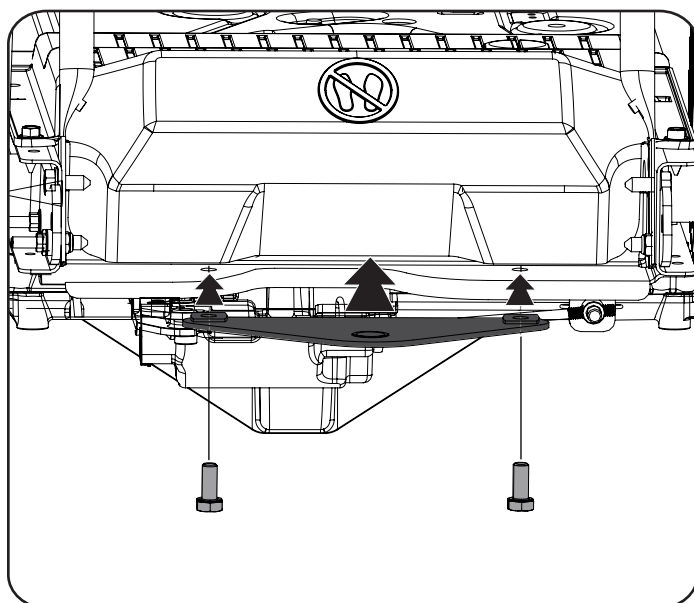

Figure 14
1. Slide the hitch plate in between the frame and the rear cover on your rider. See Figure 14.
2. When the holes in the hitch plate and the frame are aligned, install the two hex screws from the manual bag up through the frame and into the hitch plate. See Figure 14.